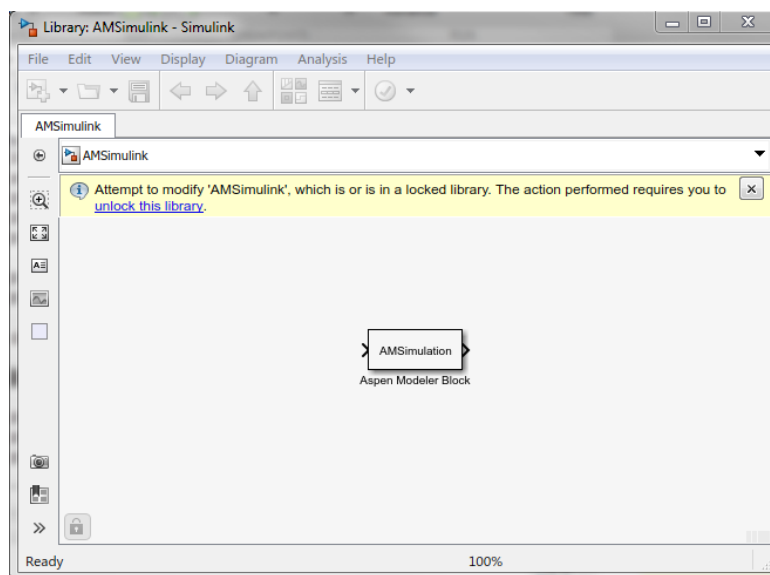

Figure 1
3. Find and open **AMSimulink.mdl** file inside folder. Copy the **AMSimulation** block (refer Figure 1) to another blank Simulink model environment.